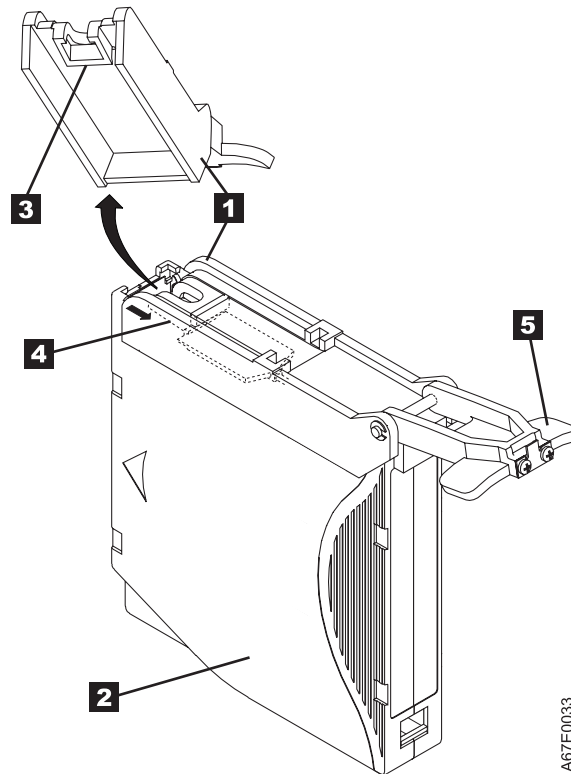

Figure 124. Attaching the leader pin attach tool to the cartridge. To hold the cartridge door open, hook the tool into the door and pull the tool back.
1. Attach the leader pin attach tool (**1** in Figure 124 on page 155) to the cartridge **2** so that the tool's hook **3** latches into the cartridge's door **4**. Pull the tool back to hold the door open, then slide the tool onto the cartridge. Open the tool's pivot arm **5**.